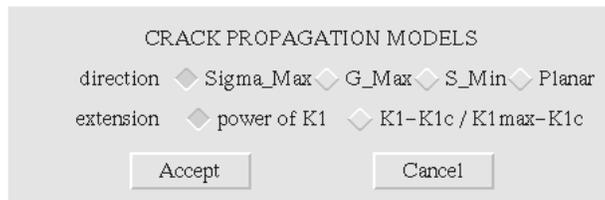
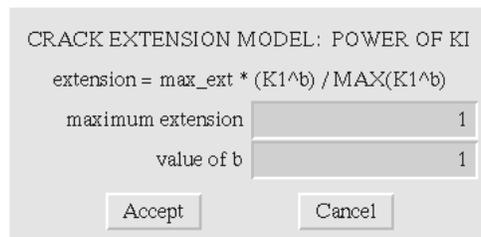

Figure 8.7. The **CRACK PROPAGATION MODELS** dialog box.
Figure 8.8. The **CRACK EXTENSION MODEL** dialog box.
- **determine the new front points** requires that the user select the model for crack propagation direction and extension. This is done by selecting the model from the dialog box shown in Figure 8.7. The direction is calculated using the standard equations from two dimensional crack growth theories. These include the maximum tangential stress, the maximum energy release rate, and the minimum strain energy density. A planar model is also available for those cases when the user wishes to force the propagating crack to remain in the same plane. Based on the model of extension chosen, another dialog box is presented to retrieve the extension parameters, Figure 8.8.